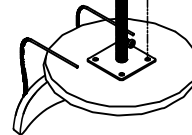

Figure 3
4. Attach the seat by aligning swivel with insert in the hole of the stretcher, as shown in Figure 3.